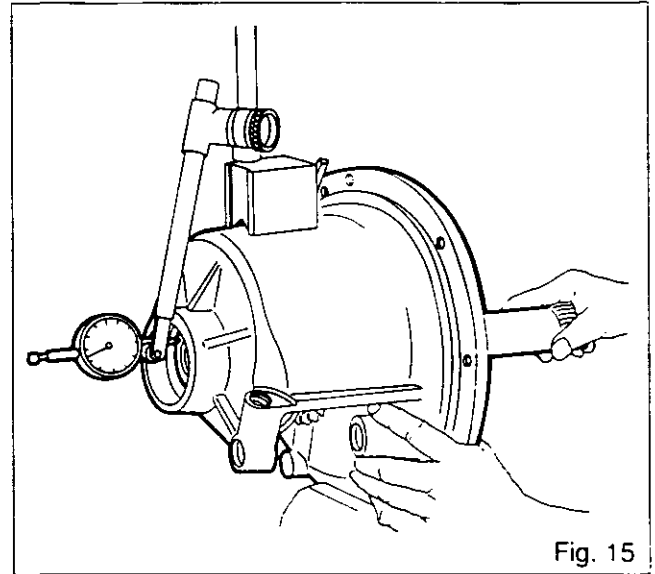
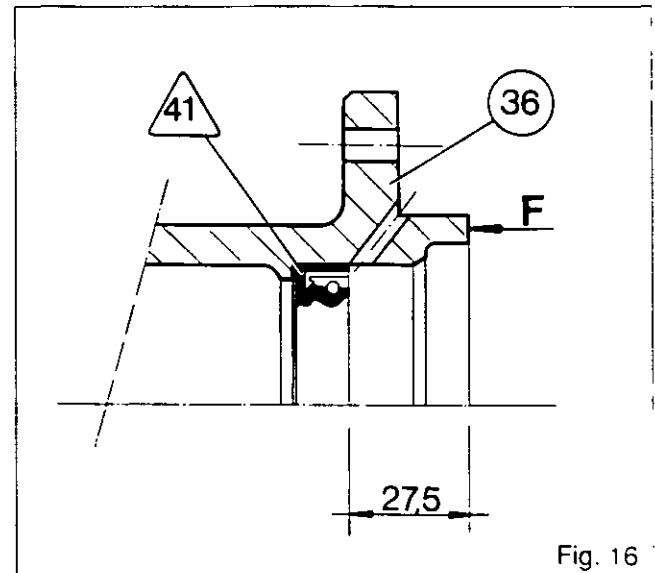

Fig. 15
Fig. 16
45. Set up dial gauge with stylus against end of shaft (Fig. 15).
46. Pull on shaft to position bearing (24) correctly against circlip (25), or bearing /44\ correctly against spacer (36), depending on version.
48. Push on the shaft to position bearing (9) correctly, hard against the shoulder in the housing.
50. Remove circlip (25) (units with speedshift).
51. Remove spacer (36) (units without speedshift).
53. Refit circlip (25) (units with speedshift).
54. Where required, fit a new seal /41\ in spacer (36) so that it is a distance of 27.5 mm from face F (units without speedshift) (Fig. 16)
55. Cover the splines in shaft (19) temporarily so that seal /41\ will not be damaged (units without speedshift).
56. Lubricate seal /41\ and refit spacer (36), with a new sealing ring (37), and pipe (42) (units without speedshift).